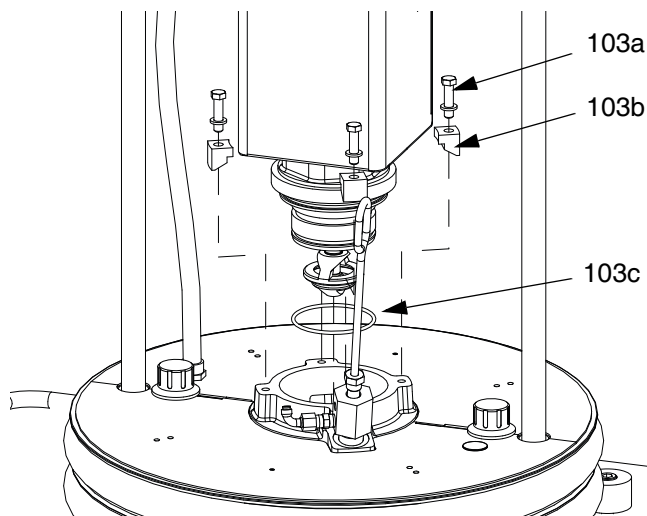

FIG. 41: 55 Gallon Mounting Kit
2. Secure pump to platen with screws (103a) and clamps (103b). See FIG. 41.